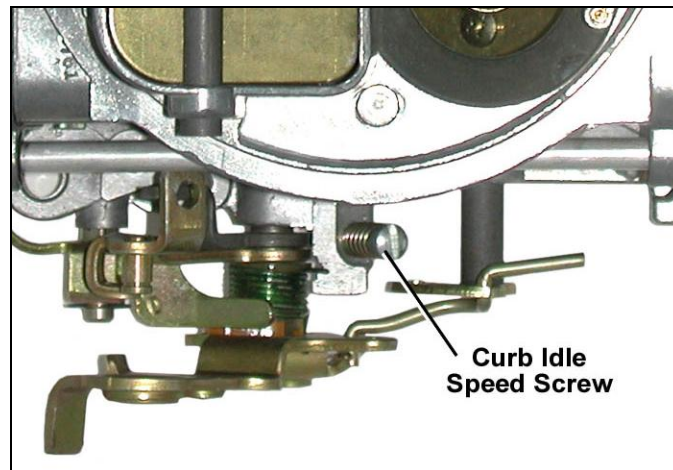

Figure 9
3. Now that the idle mixture is set, it may be necessary to go back and reset the idle speed using the curb idle speed screw, as shown in Figure 9.